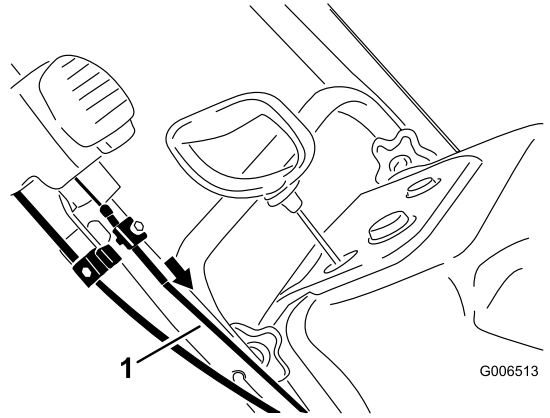

Figure 43
5. Pull the upper cable casing forward until you remove the slack in the cable, and tighten the screw on the upper cable clamp securely (Figure 43).